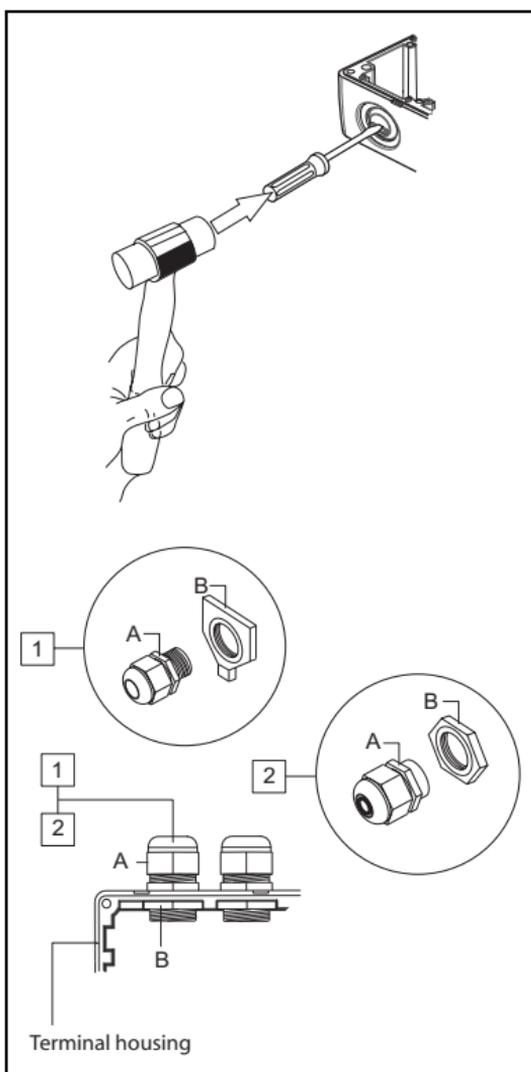

Figure 1 Installation of Cable Glands
3. Remove the cable gland blanking plates (knockouts) as required. See Figure 1.